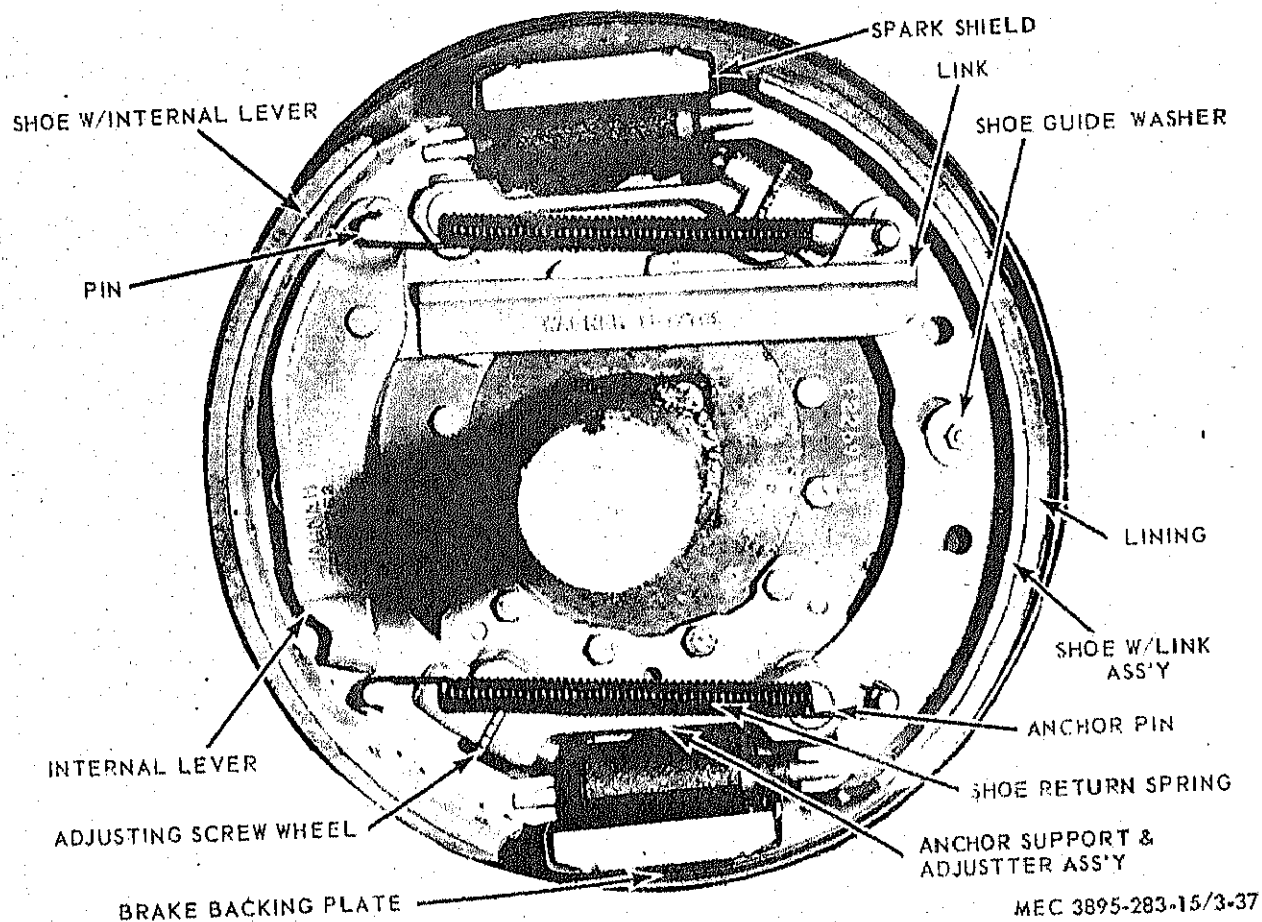

Figure 3-37. Brake Assembly.
b. *Removal of Brake Shoe With Linkage* (fig. 3-37).
(1) Open air reservoir drain cock.
(2) Remove wheels, hubs and brake drum (para 3-66).
(3) Install clamp to retain pistons in the wheel cylinders.
(4) Remove brake shoe return springs from front and rear shoes.
(5) Remove hex nut, guide bolt, lock-washer, shoe guide washer, and bolt guide
3-58. Wheel Cylinder (fig. 3-37)